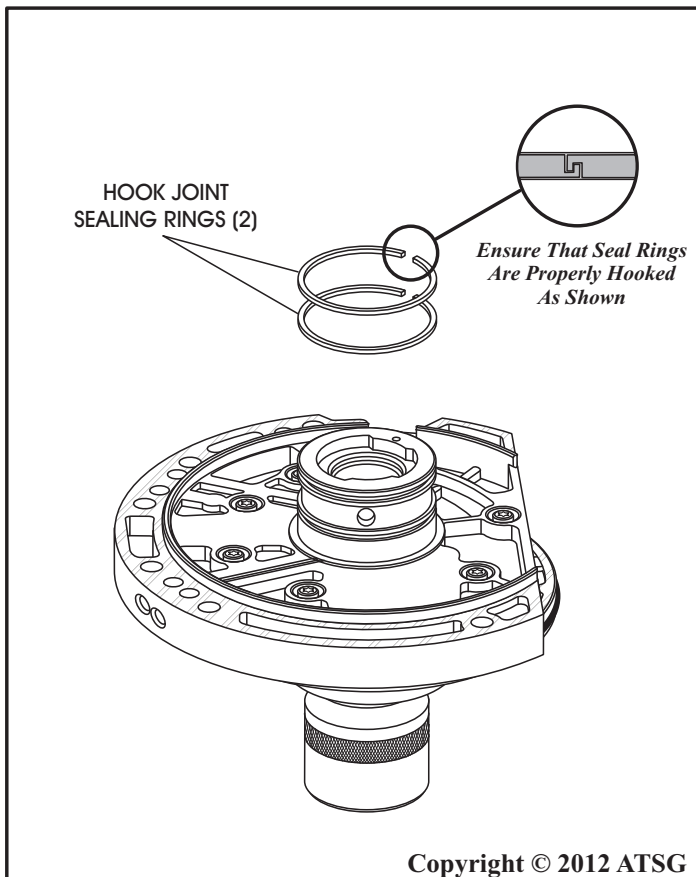

Figure 205
13. Install the underdrive clutch sealing rings, as shown in Figure 205, and ensure that they are properly hooked and have free rotation.